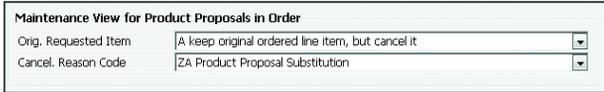

Figure 5.99 Treatment of the Original Item for the Product Proposal
3. Next, define the treatment of the original item for up-selling/down-selling by navigating to SPRO • CUSTOMER RELATIONSHIP MANAGEMENT • TRANSACTIONS • SETTINGS FOR SALES TRANSACTIONS • PRODUCT PROPOSALS IN QUOTATIONS AND ORDERS • DEFINE TREATMENT OF ORIGINAL ITEMS FOR UP-/DOWN-SELLING. You can add the cancellation reason code for the original line item if you want to cancel the line when transferring the products from the PRODUCT PROPOSAL screen (see Figure 5.99).